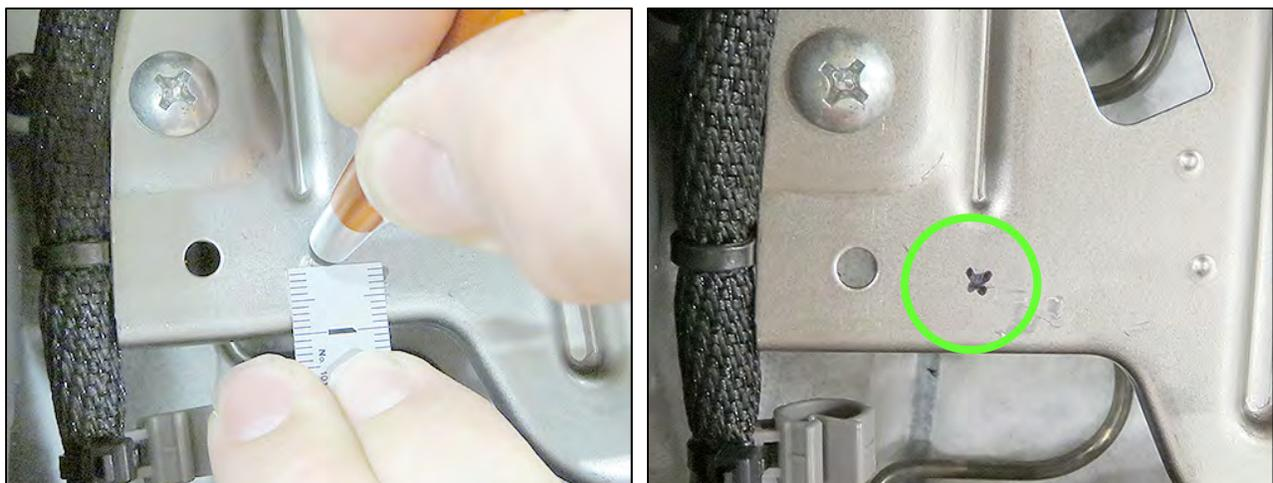

Figure 11
15. Measure approximately 9.4 mm (± 2 mm) from the bottom of the same mounting plate, and then mark where the two measurements intersect as shown in Figure 11.